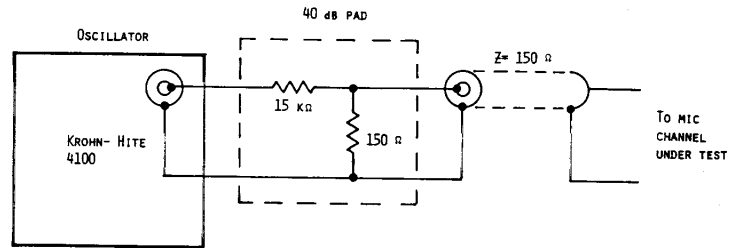

FIGURE 9, 40 dB,
- See Figure 9
Using the test set-up, Figures 9 and 14: